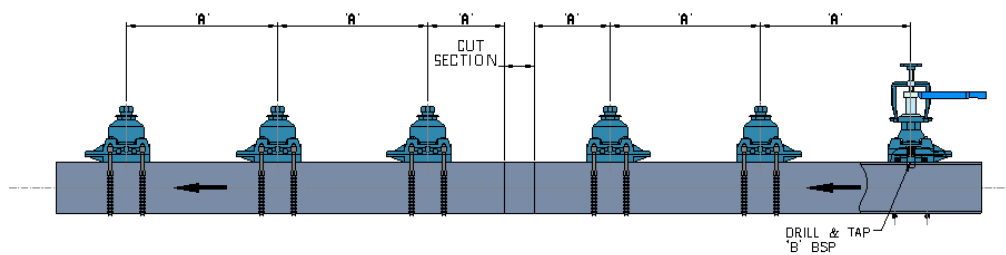

Figure 58- Drilling Separation Distances and Tapping Sizes
11. Ref to Figure 58 and Table 26 and mark the positions of the drillings on the main.